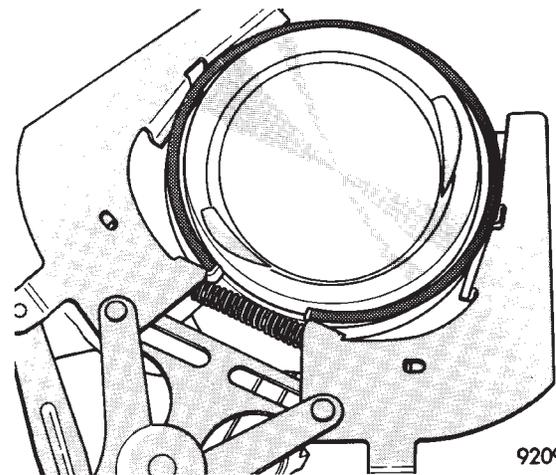

Fig. 42 Piston Rings—Removing and Installing
- (1) ID mark on face of upper and intermediate piston rings must point toward piston crown.
- (2) Using a suitable ring expander, remove upper and intermediate piston rings (Fig. 42).
- (3) Remove the upper oil ring side rail, lower oil ring side rail and then oil ring expander from piston.
- (4) Carefully clean carbon from piston crowns, skirts and ring grooves ensuring the 4 oil holes in the oil control ring groove are clear.